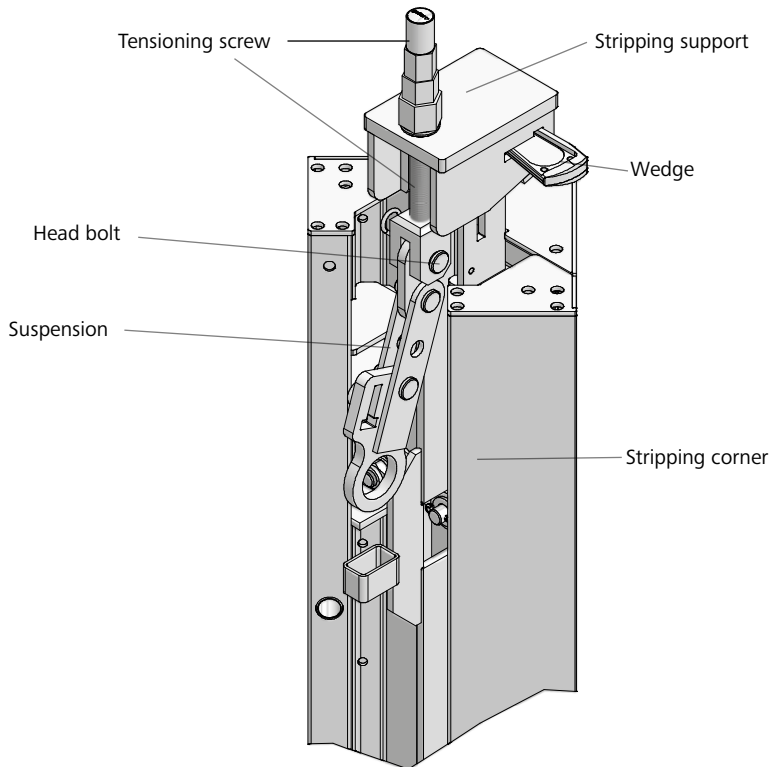

Fig. 37.3
1. Place the stripping support onto the connecting device at the top of the stripping corner. Make sure the suspension is inclined downwards (Fig. 37.3).
2. Connect the stripping support to the stripping corner with the head bolt 16/40 and cotter pin 4 that are both integrated into the tensioning screw of the stripping support (Fig. 37.3).
3. Lock the stripping support to the stripping corner by driving the stripping corner's wedge with a few hammer blows into the opening of the stripping support (Fig. 37.3).